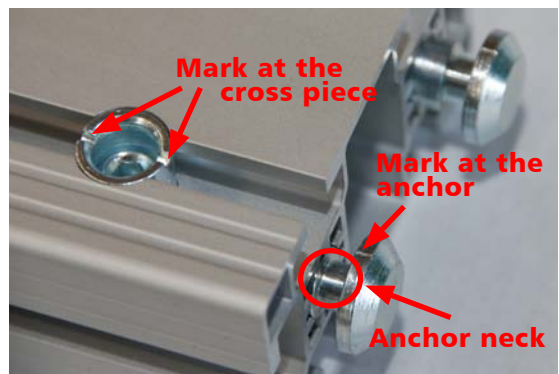

fig. 3.2-4
**!** It is important that you can still see the neck of the anchor (**fig. 3.2-4**). to be able to insert it into the lead channels at a later point. It might be the case that you need to push the anchor slightly against the cross piece while screwing it in.